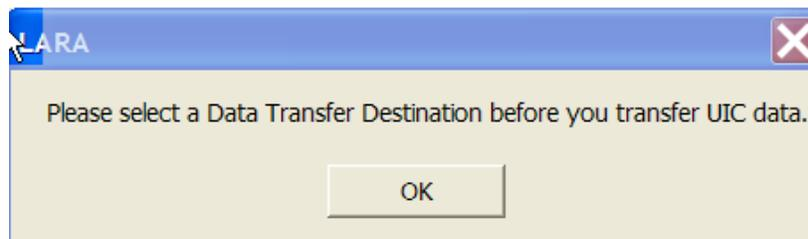

Figure 63. Confirmation
- (3). Use the pull down to select the drive the file is to be copied to, highlight the UIC(s), CSN(s), or EISN(s) to be transferred and press transfer UIC, transfer Components, or transfer end item.
- (4). If you forget to select a drive the following will appear (Figure 63).